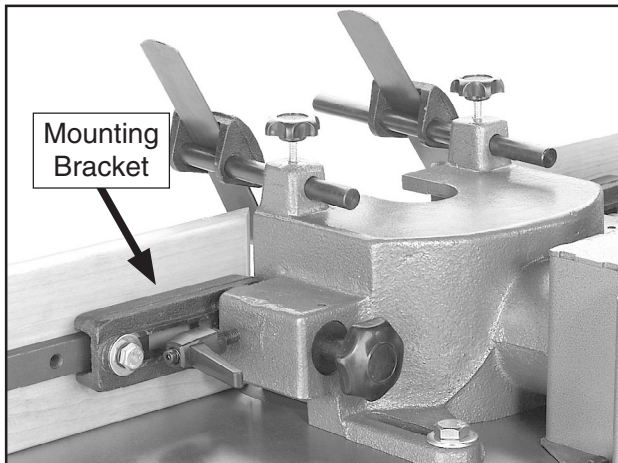

Figure 57. Fence mounting bracket.
4. Make corrections by shimming between the fence boards and the mounting brackets (see **Figure 57**).